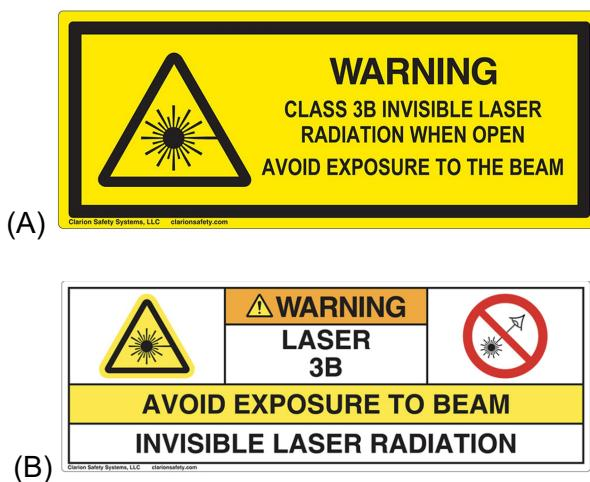

Figure 6: Class 3B warning labels (A) on the device and (B) inside the device.
The label shown in Figure 6(A) is displayed on the console to warn the user of a higher class of laser embedded inside of it. The console should never be opened by the users, as the user will be exposed to Class 3B invisible laser radiation when the box is opened.
The label shown in Figure 6(B) is displayed inside the console, on the source module to warn the user of a higher class of embedded laser.